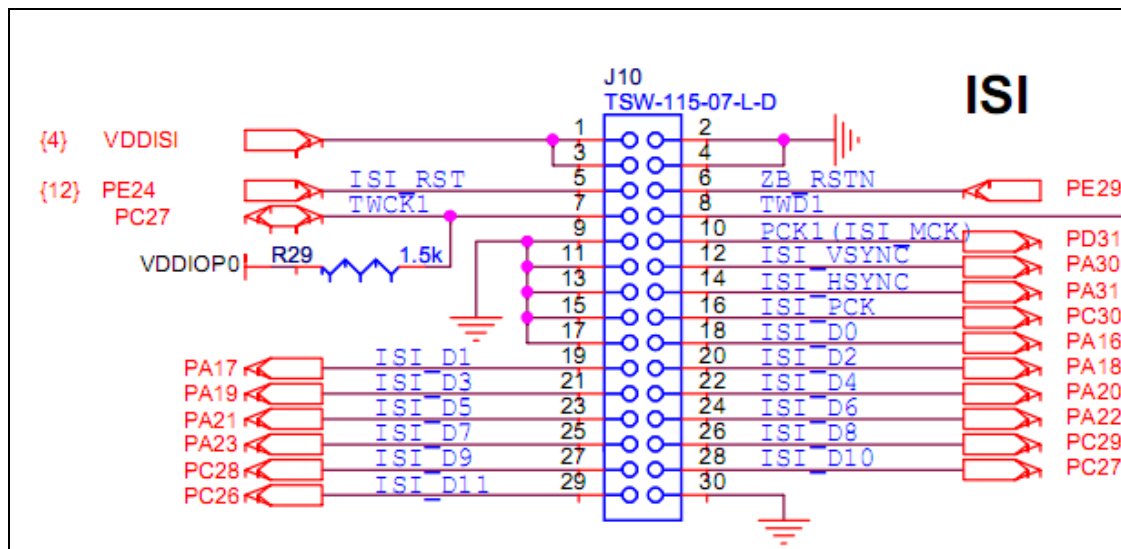

Figure 2-10
(4) ISI interface is shown in figure 2-10: